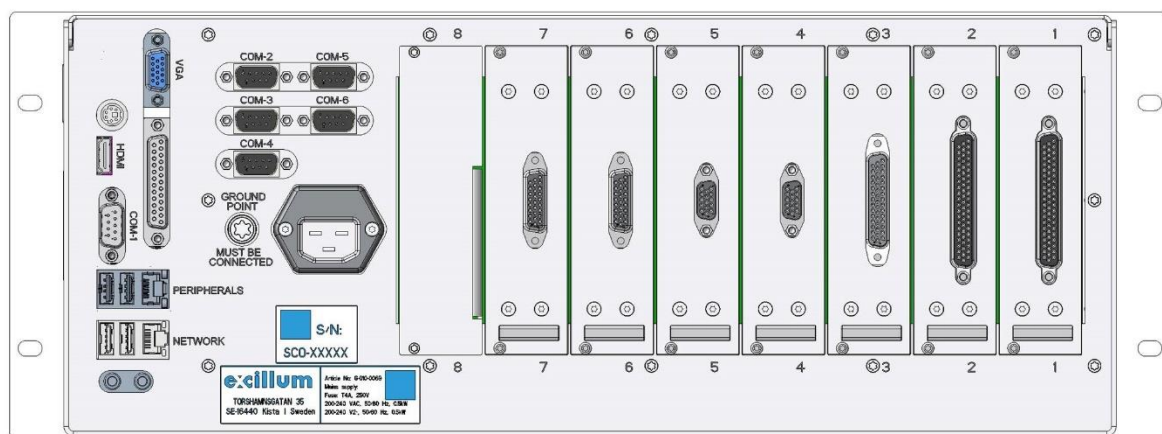

Figure 4-15. X-ray system controller seen from behind.
1. Connect all interconnecting cables between X-ray head, X-ray system controller, X-ray high-voltage controller and pump box according to Table 4-2 below. Refer to Section 4.4.3.8 and Figure 4-15. Regarding connector locations for MetalJet D2+/C2 70 kV source and Section 4.4.3.9 and Figure 4-15. Also Figure 4-21. for MetalJet D2+/C2 160 kV source.
2. Connect the source to the local network using the ethernet port in the back of the X-ray system controller. See Figure 4-15. X-ray system controller seen from behind.
For a MetalJet D2+/C2 the modules in Figure 4-15. are in order as in Table 4-3.